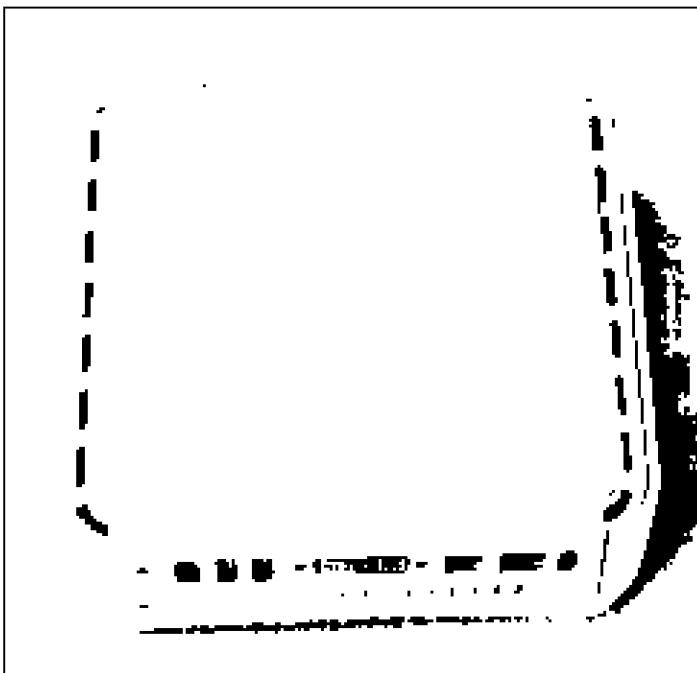

Figure 17-1:
- ✓ **Bottom:** The sides of the Mac mini don't extend all the way down to the base. They stop $\frac{1}{8}$ " from the bottom, where air vents (shown in Figure 17-1) suck in cooling air. If you're wrapping the mini in some decorative material, keep these vents clear.